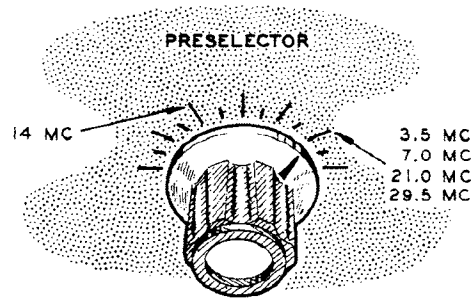

Figure 5
- () Place the PRESELECTOR knob in the position indicated in Figure 5 for the band being aligned.